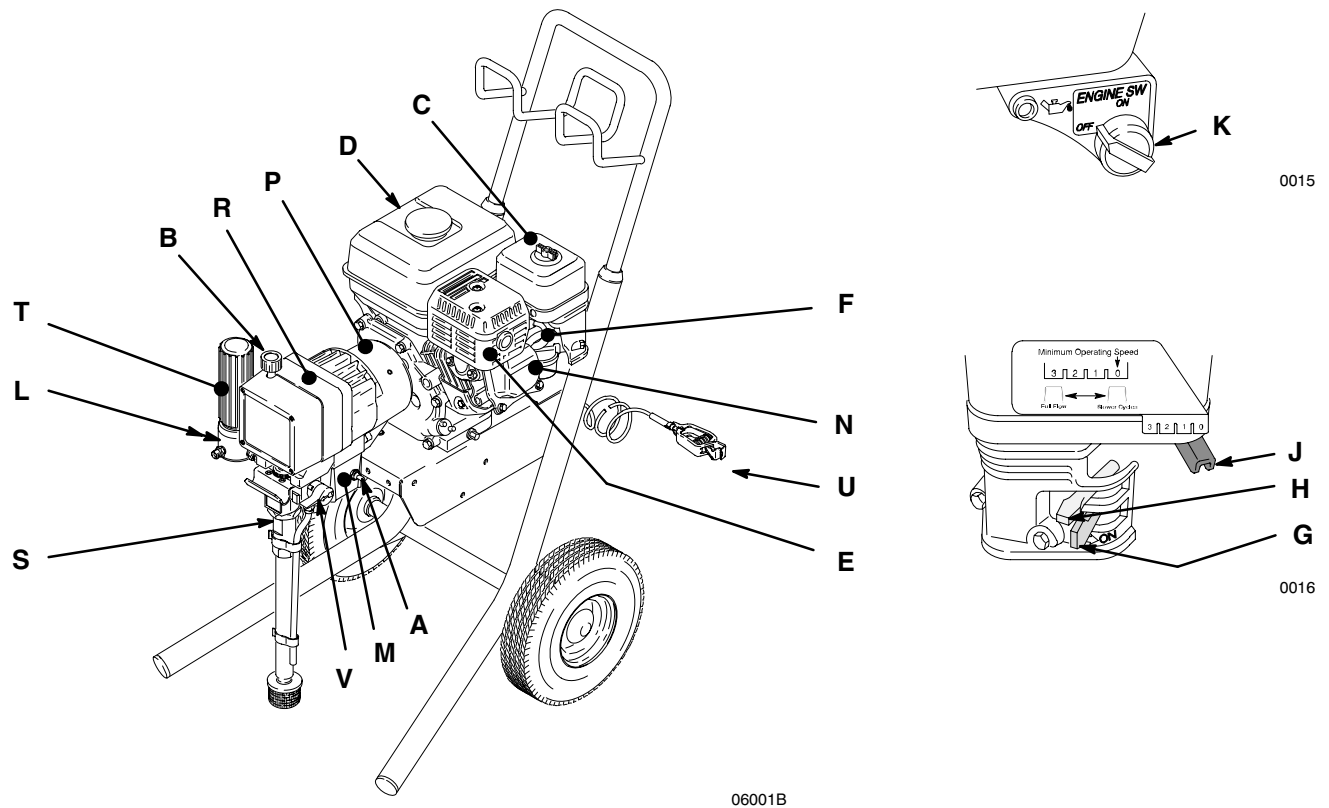

Fig. 1
**NOTE:** Refer to Fig. 1 as you start the sprayer.